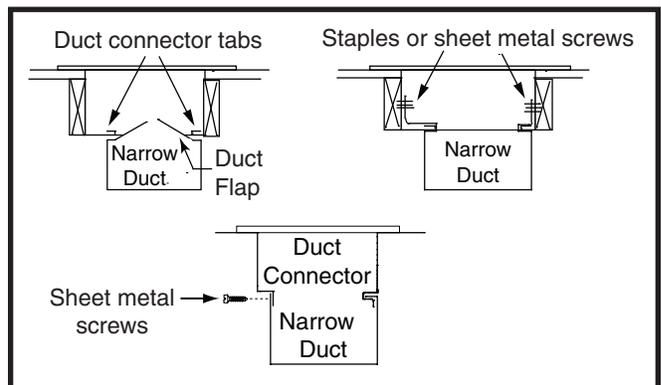

Figure 13. Narrow Ducts
4. Bend the tabs on the bottom of the duct connector upwards and as tight as possible against the supply air duct. See Figure 13 \(page 8\).